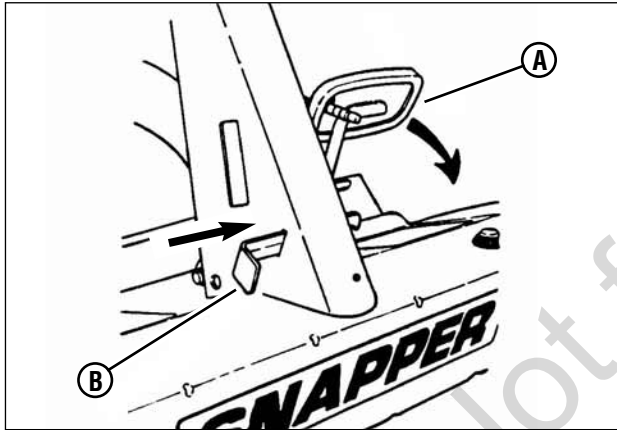

Figure 16: Setting the park brake
1. To set the park brake, press the clutch/brake pedal (A, **Figure 16**) all the way down, slide the park brake latch (B) all the way in to the engaged position, and release the clutch/brake pedal. A detent in the park brake latch will keep the park brake engaged.